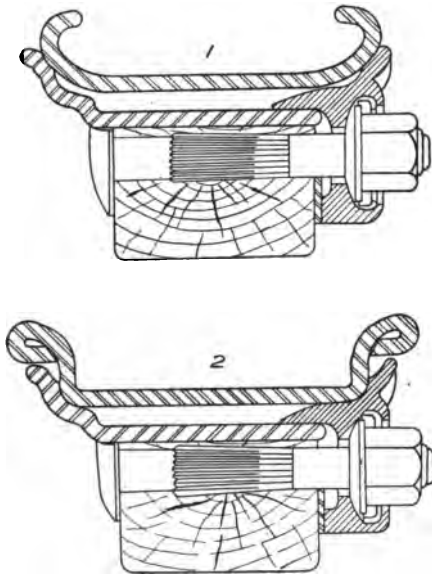
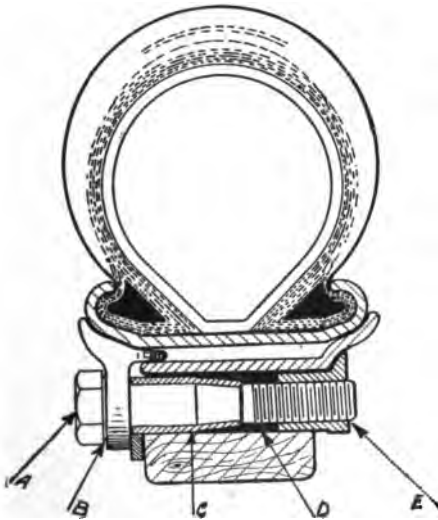

Fig. 77. Two Popular Demountable Rim Forms—of Clincher Tires Above, for Straight-Side Below
Fig. 78. Sectional Drawing Showing Construction of Baker Demountable Rim
In Fig. 77 is shown a pair of additional demountables, which are held by the local-wedge method, the difference here being in the form of wedge. Note that *1* has a solid clincher rim and *2* a straight side rim. The base, however, is the same for both and, as
*Process of Changing Baker Local-Wedge Type.* In Fig. 78 is shown the Baker, which, as mentioned previously, is of the local wedge type of demountable, having a transversely split rim which must be removed from the wheel before the tire can be taken off of it. Perhaps this whole action will be shown more clearly by the progressive series of views, Figs. 79 to 89, which show the various steps in removing and replacing a tire and tube mounted on a Baker rim, the same as is shown in section in Fig. 77. First, all the wedge